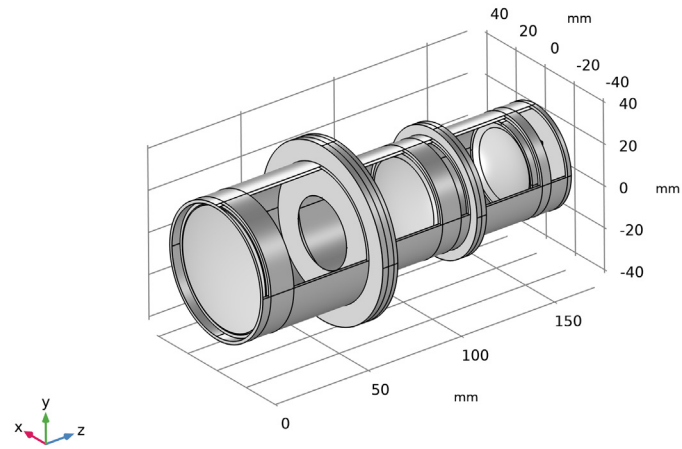
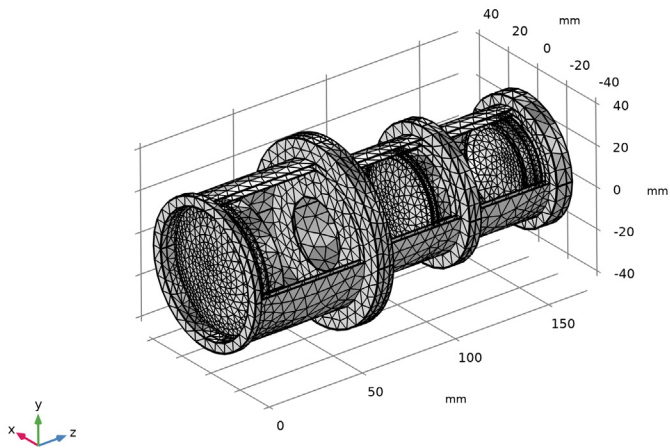

Figure 2: The Petzval Lens Stop Analysis geometry sequence.
Figure 3: The Petzval Lens Stop Analysis mesh.
Following insertion into the model, the geometry sequence should look like Figure 2. The mesh also needs to be refined slightly in order to improve the discretization and to account for the overall change in size of the geometry. The resulting mesh is shown in Figure 3.
- 10 On the object **fin**, select Boundary 19 only. Continue to select boundaries that allow the inside of the lens assembly to be seen. Orient the view to match Figure 2.